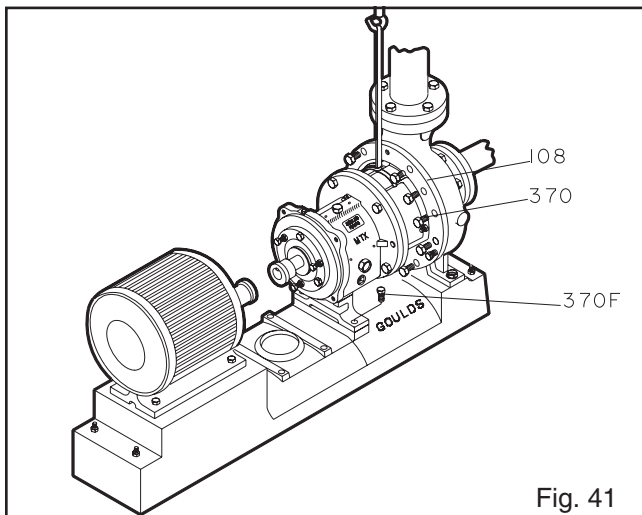

Fig. 41
8. *All, except with C-Face adapter:* Place sling from hoist through frame adapter (108) or frame (228A) for STX (Fig. 41).